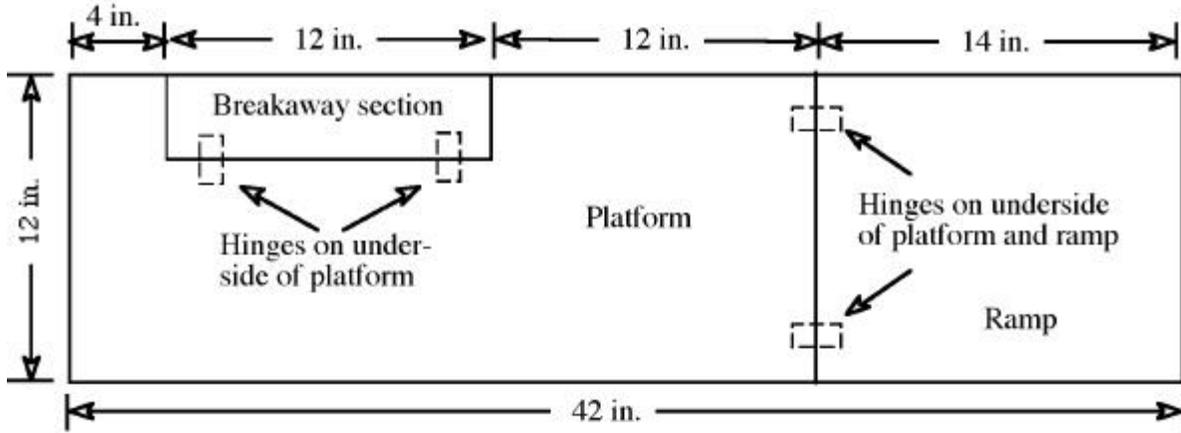

Figure 10: Top view of platform, breakaway section, and ramp
The directions for constructing the ramp are presented in two parts. The first part starts on this page and is the printed list of instructions. The second part is a one-page set of diagrams that accompany the printed instructions. Note that the diagrams are numbered from Figure 10 through 13. Figures 1 through 9 are found in Appendix B.
- a) Platform - Cut a piece of plywood 28 inches long and 12 inches wide (see Figure 10).
- b) Ramp - Cut a second piece of plywood 14 inches long and 12 inches wide (see Figure 10).
- c) Breakaway section - Using a saber saw or a jig saw, cut a 12-inch by 3 1/4 -inch section from one side of the platform. The cut should be made 4 inches from one end of the platform and 12 inches from the other end (see Figure 10). Save this piece.
- d) Hinges for breakaway section - Attach the 12 x 3 1/4-inch piece of plywood to the platform with two small hinges and screws as shown in Figure 10. Place the hinges on the bottom side about 1 1/2 inches from each end of the breakaway section. Use small screws so that the tips don't come through the top side of the platform.
- e) Hinges for the ramp - Attach the 12 x 14-inch plywood ramp to the platform with two small hinges and screws as shown in Figure 10. Place the hinges on the bottom side about 1 1/2 inches from each side of the ramp. Make sure to put the two hinges on the 12-inch width of the ramp, and not on the 14-inch length of the ramp. Use small screws so the tips don't come through the top side of the ramp.